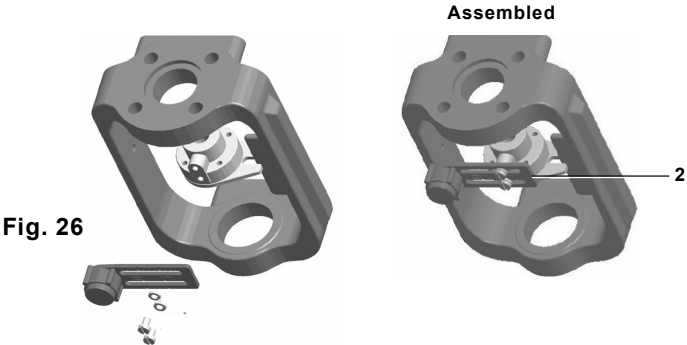
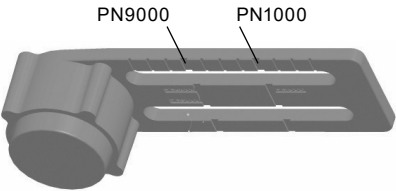

Fig. 26
Fig. 27 Bracket markings
- 5.2.2** Slide the bracket (2) to the left or to the right (Figure 26) till the correct position is achieved. If you're using a Spirax Sarco actuator the correct position is impressed on the magnet bracket (Figure 27).